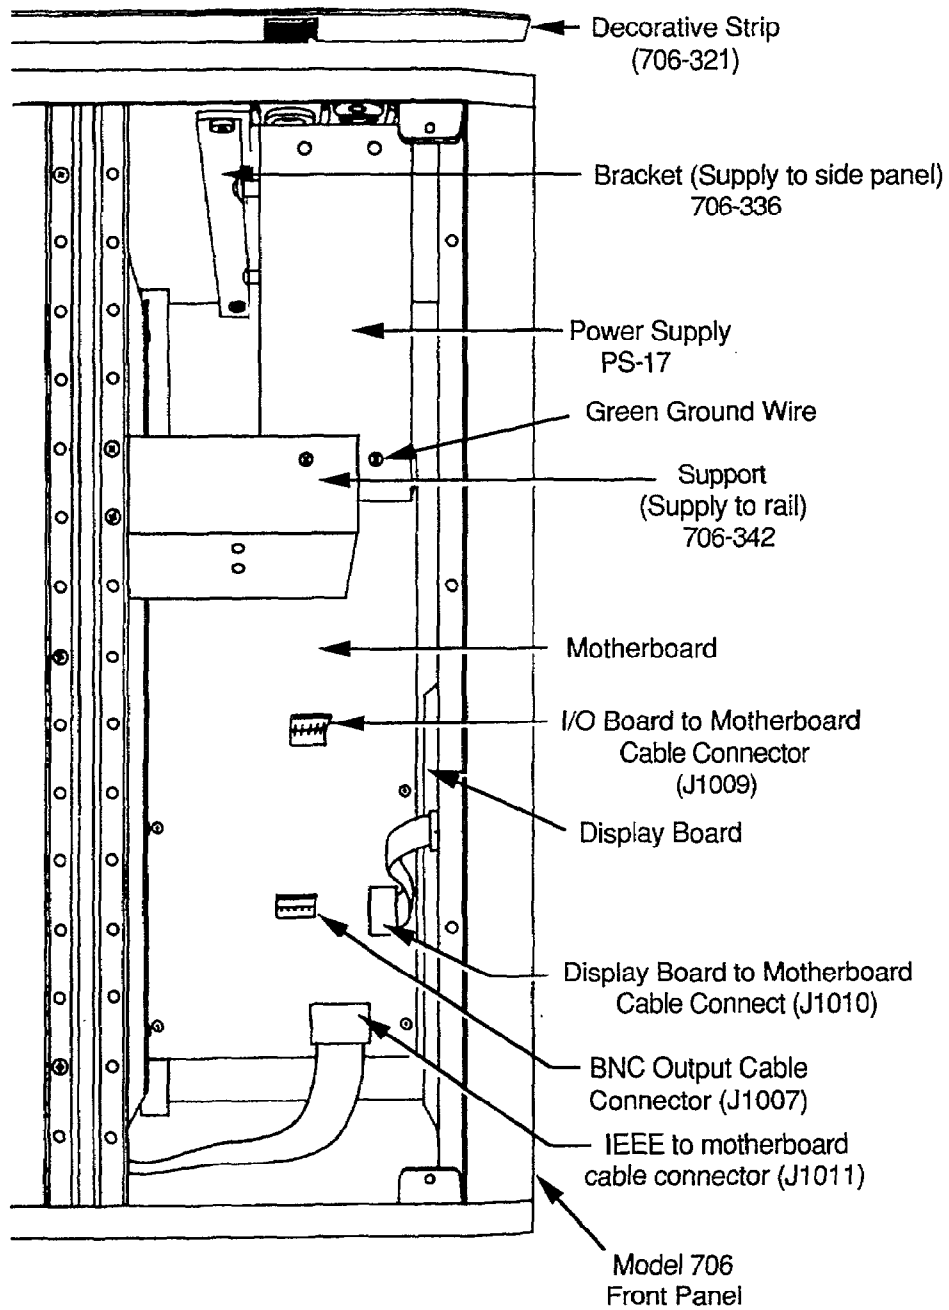

Figure 5-3. Model 706 Top View
- A. From inside the mainframe, place a thin blade screwdriver into one of the holes where the decorative strip is secured. Refer to Figure 5-3.
- A. Remove the three screws that secure the thermal breaker shield to the supply and mounting rail. Refer to Figure 5-3.